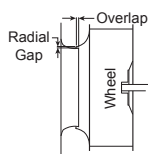

Figure 5
6. Rotate the wheel by hand to ensure that it does not rub and rotates freely. Refer to Figures 5 and chart for proper overlap and radial gap dimensions.